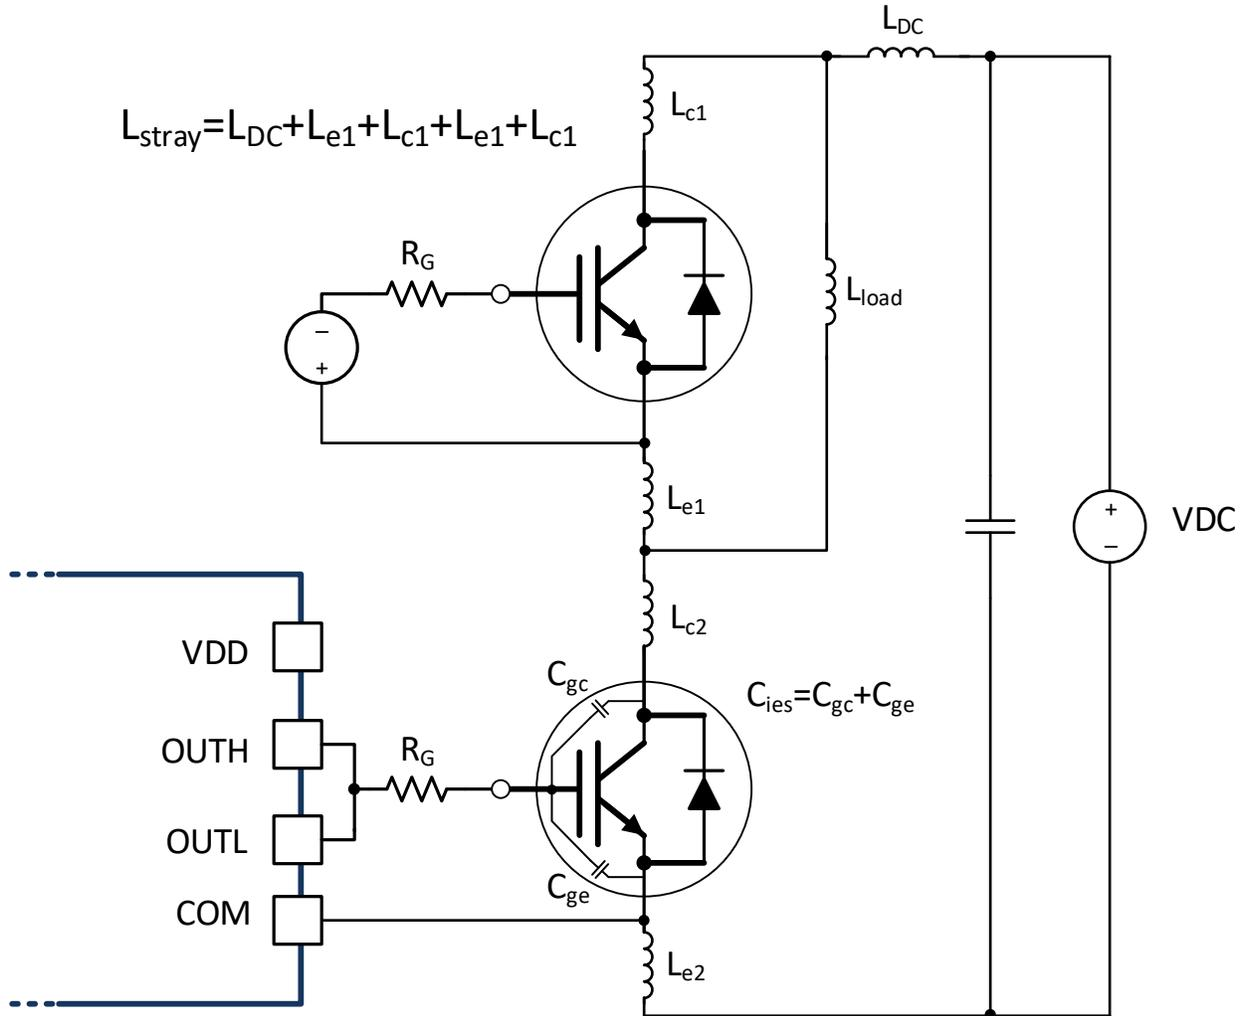

Figure 9-6. Stray Parasitic Inductance of IGBTs in a Half-Bridge Configuration
- $L_{\text{stray}}$  is the stray inductance in power switching loop, as shown in Figure 9-6